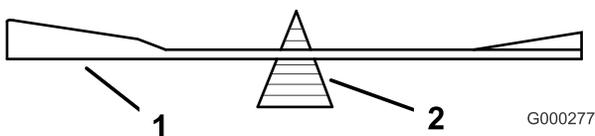
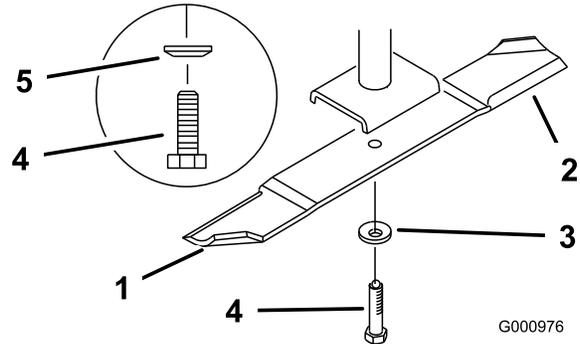

Figure 87
Figure 88
2. Remove the blade bolt, spring disk and blade from the spindle shaft (Figure 88).
2. Check the balance of the blade by putting it on a blade balancer (Figure 87). If the blade stays in a horizontal position, the blade is balanced and can be used. If the blade is not balanced, file some metal off the end of the sail area only (Figure 88). Repeat this procedure until the blade is balanced.
1. Install the blade onto the spindle shaft (Figure 88).
2. Install the spring disk and blade bolt. The spring disk cone must be installed toward the bolt head (Figure 88). Torque the blade bolt to 85-110 ft-lb (115-150 N•m).